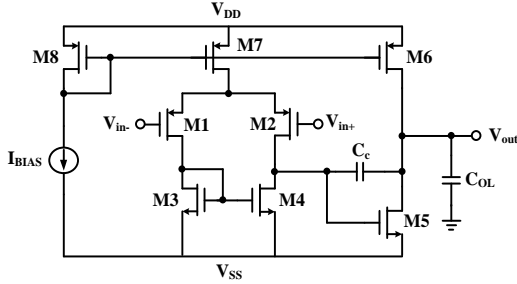
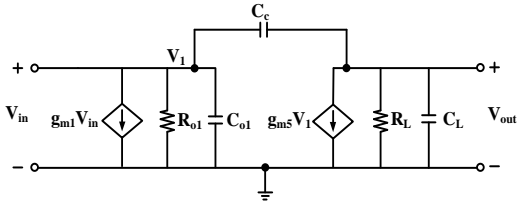
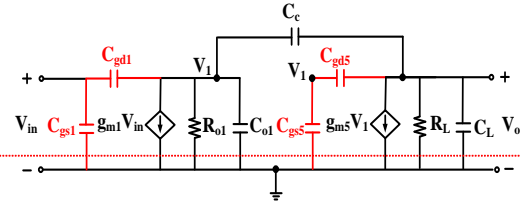
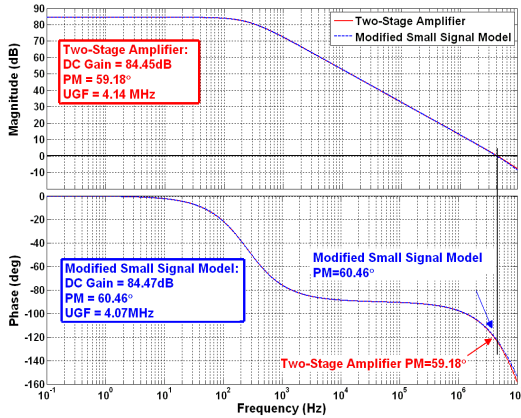

Fig. 1. Schematic of the two-stage amplifier.
Fig. 2. General small signal model of the two-stage amplifier.
Fig. 4. Modified small signal model of the two-stage amplifier.
Fig. 5. Simulated frequency response of the two-stage amplifier and the modified small signal model.
model was accurate for our performance bounds analysis. By applying the small signal model to a CMOS two-stage amplifier as shown in Fig. 1, we obtained a simplified circuit generally used by analog circuit designers, as shown in Fig. 2 [6]–[8]. The accuracy of the small signal model can be investigated by comparing the SPICE simulations of the original circuits (Fig. 1) and the simplified one (Fig. 2). In the following experiments, the SPICE simulation results were carried out using a standard 0.35- $\mu\text{m}$  CMOS process technology.
signal equivalent circuit of CMOS transistor has been applied. Using this, the modified small signal model of the two-stage amplifier can be obtained as shown in Fig. 4. The modified model contains four more parasitic capacitors,  $C_{gs1}$ ,  $C_{gd1}$ ,  $C_{gs5}$ , and  $C_{gd5}$ , as compared to the general model.
amplifier is shown in Fig. 5. From the simulation results, the phase margin (PM) of the modified model is  $1.28^\circ$  larger than the two-stage amplifier. The error in phase margin caused by the modified model is reduced compared to the general model shown in Fig. 2. Thus, we
To maintain the accuracy, we applied the complete transfer function of the modified small signal model shown in Fig. 4. The complete transfer function of the modified model of the two-stage amplifier is shown in (1). However, Kharitonov's method requires all coefficient variations in the system transfer function to be independent from each other. Unfortunately, almost any real circuit does not satisfy this constraint. For example, the transfer function (1) of the two-stage amplifier shown in Fig. 1, can be written in the expression as follows:
The coefficients in the transfer function of the analog circuit shown in (2) contain the circuit parameters. For example, in the transfer function (4), coefficients  $a_0$  contains four circuit parameters  $g_{m1}$ ,  $g_{m5}$ ,  $R_{o1}$  and  $R_L$ . Furthermore, the circuit parameters are mainly affected by the process parameters and the geometry parameters. When the process and geometry parameters are varied, variations appear on circuit parameters. To estimate the variation range of circuit parameters affected by process and geometry parameters, we must know the relations between circuit parameters and process parameters. The general equation of each circuit parameter appears in the modified small signal model shown in Fig. 4, has been discussed in [11]. These equations are widely used in analog circuit designs. Therefore, it is believed that the accuracy is sufficient and acceptable in applying the general equation of each circuit parameter for the design purpose.